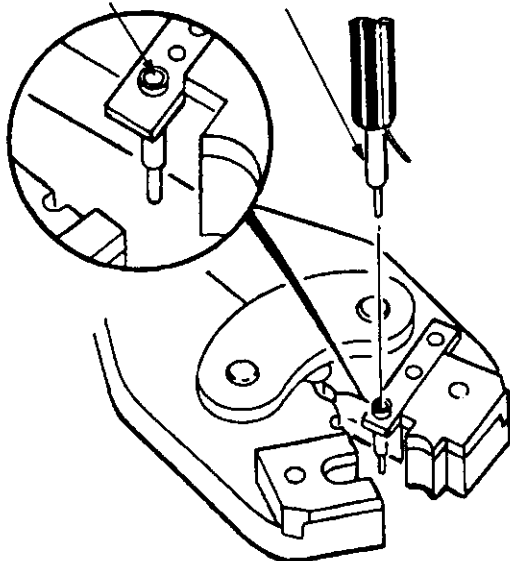

Figure 4
4. Insert the center contact in the tool head as shown in Figure 4.